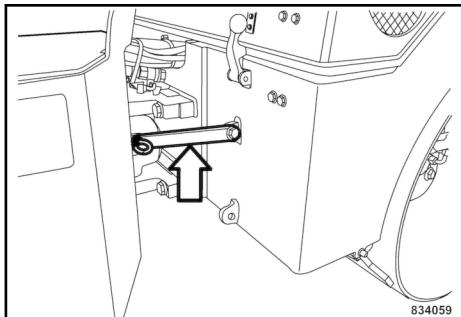

Fig. 182
1. Engage the articulation lock ↪ Fig. 182.